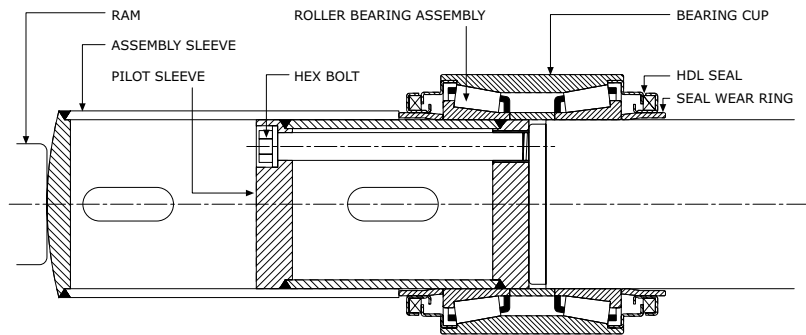

Figure 3 – Separate Sleeve method of applying roller bearings to an axle.
- Pilot sleeves fastened to the end of the axle and separate assembly sleeves, as shown in Figure 3.